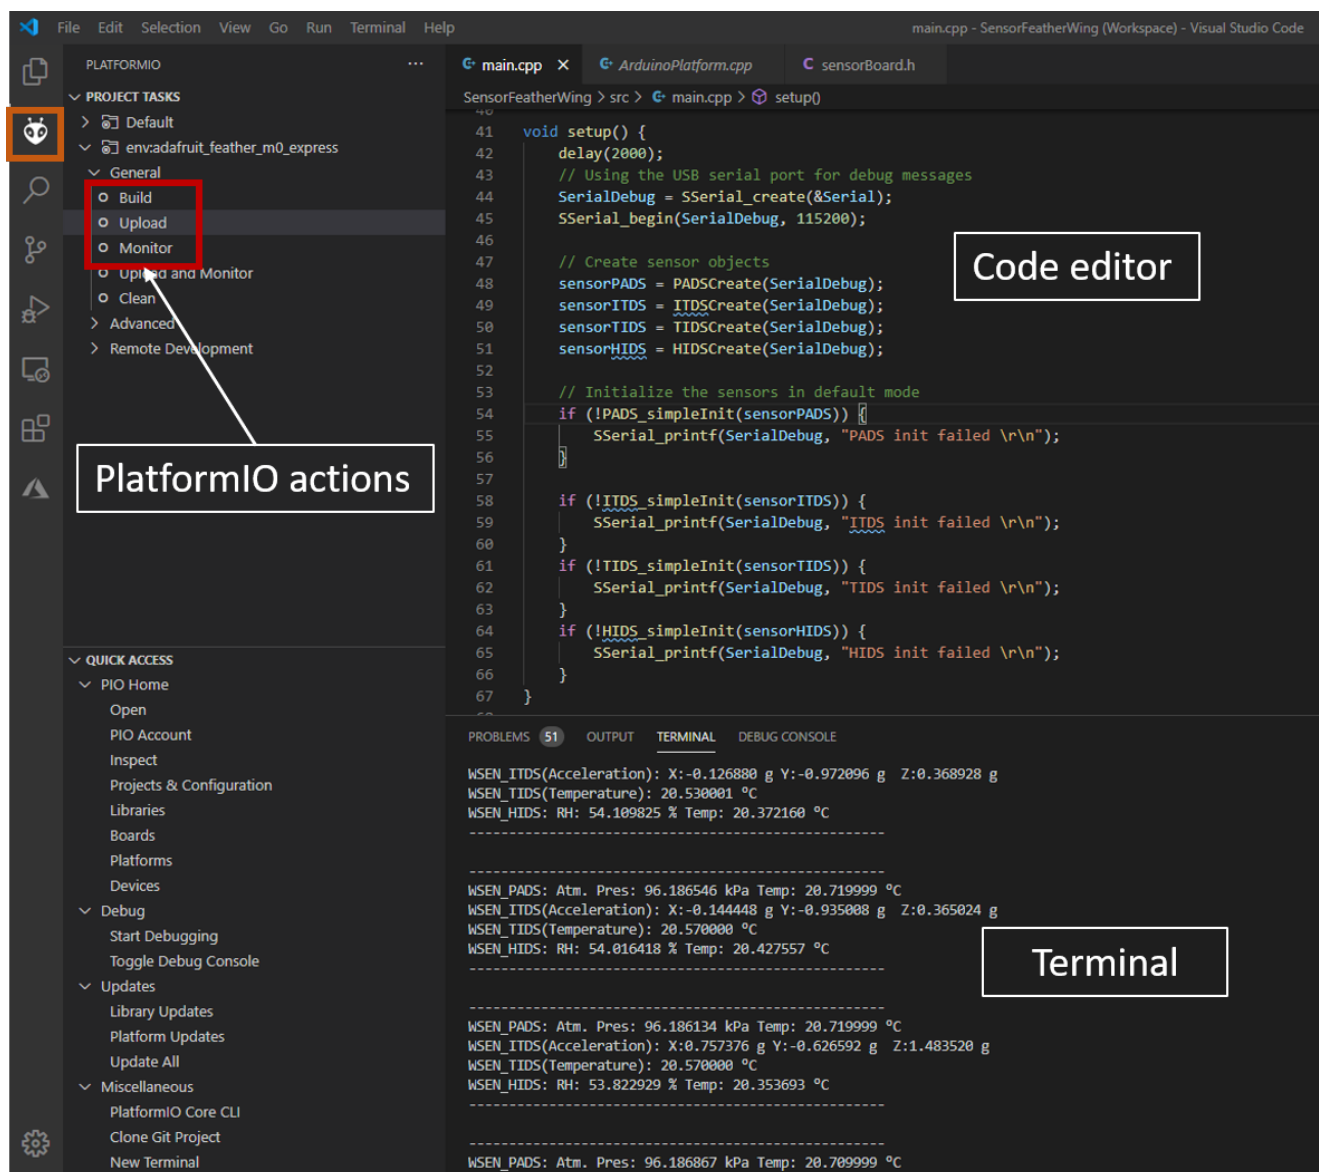

Figure 19: Running the quick start example
- Build and upload the code from the PlatformIO tab as shown in the Figure 19.
- After successful upload, click on Monitor to view the debug logs in the serial terminal (see Figure 19).